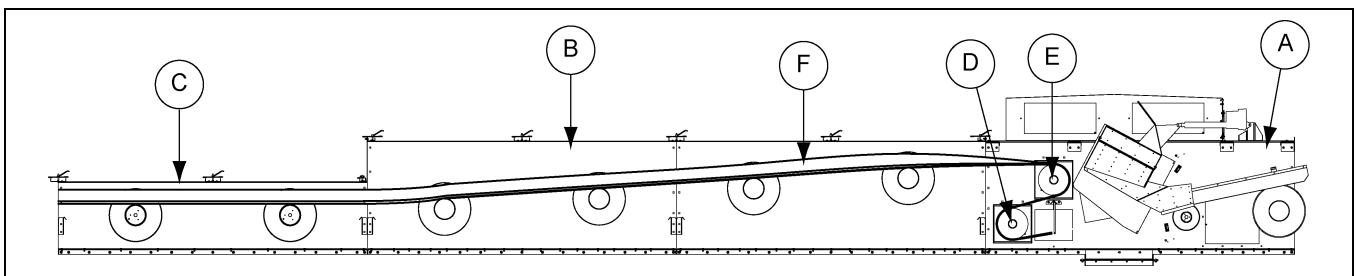

Figure 3F
1. The belt from the intermediate section (C) should be passed over the pulley in the tripper trunking sections (B).
3. Pass the belt over the top pulley (E) and back towards the reverse direction in the tripper assembly.
4. Pass the belt under the bottom pulley (D) of the tripper assembly (A). *(See Figure 3F.)*